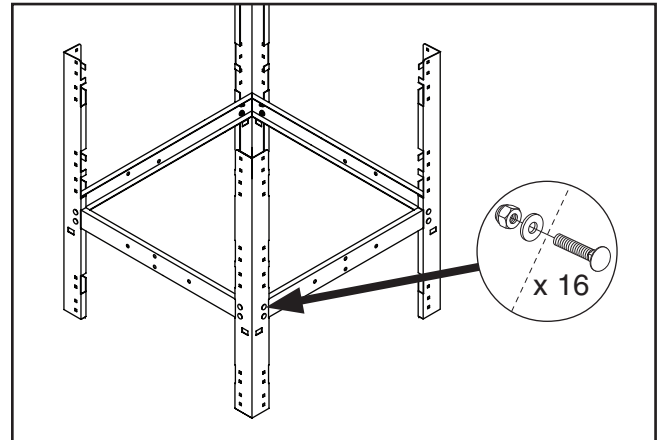

Figure 5. Initial assembly of upper stand legs connected to lower stand braces.
2. Connect upper stand legs with lower stand braces, with (16) $\frac{5}{16}$ "-18 x $\frac{3}{4}$ " carriage bolts, $\frac{5}{16}$ " flat washers, and $\frac{5}{16}$ "-18 hex nuts (see **Figure 5**).
Note: Be sure to build frame using bolt holes indicated in **Figures 5–6** and **19**. Machine will not fit correctly on frame if wrong holes are used and you will need to rebuild frame.